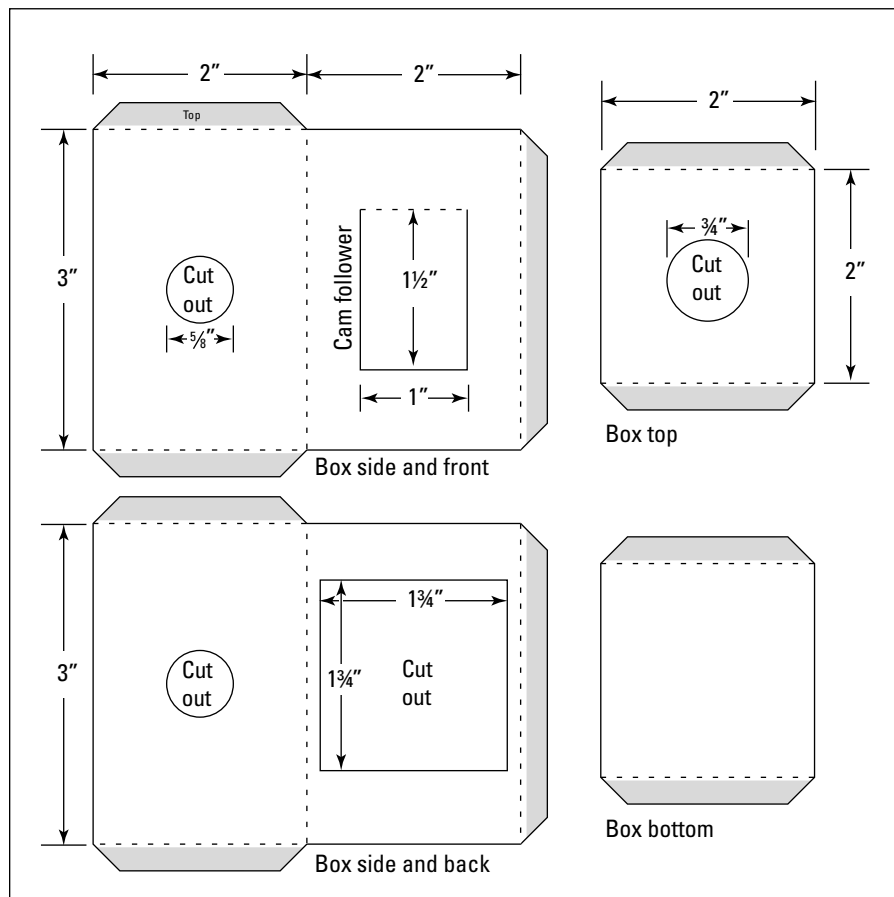

Figure 10-2:
1. Copy the box parts templates from Figure 10-2 onto your card.